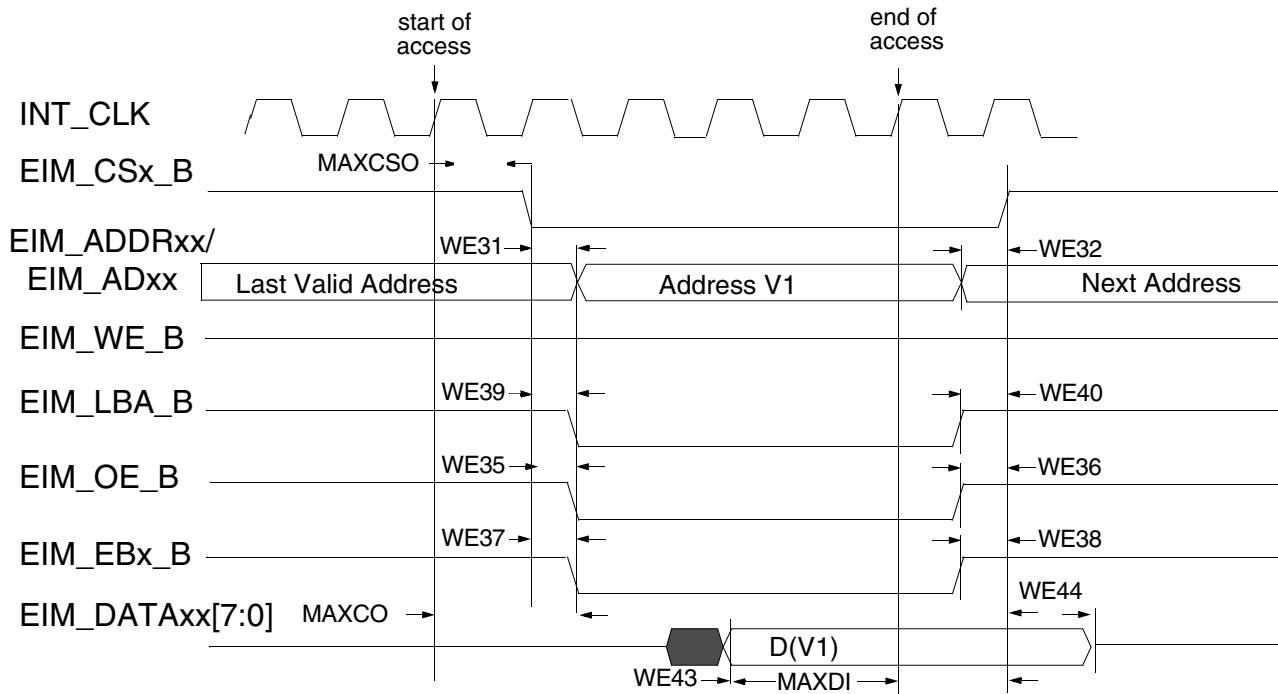
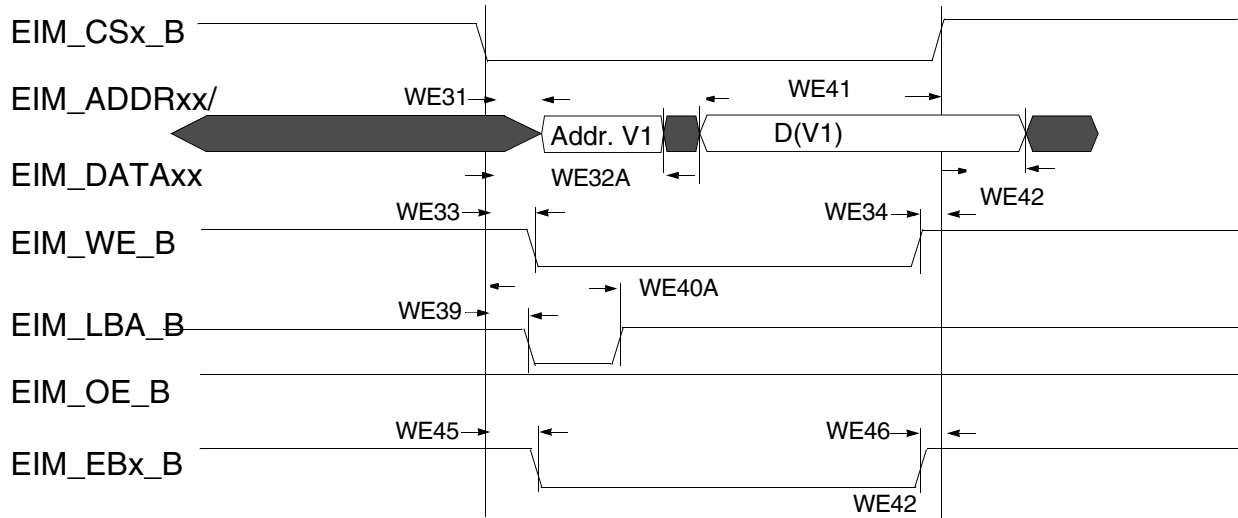
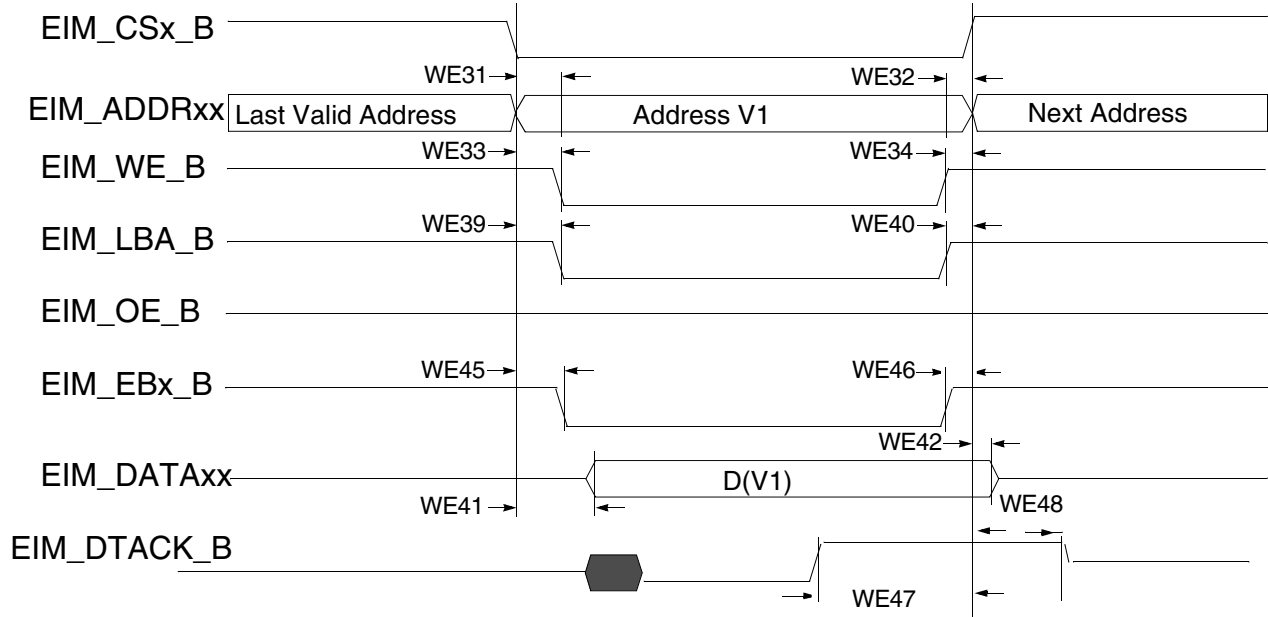

Figure 16. Asynchronous Memory Read Access (RWSC = 5)
Figure 19. Asynchronous A/D Muxed Write Access
Figure 21. DTACK Mode Write Access (DAP=0)
Figure 16 through Figure 21, and Table 46 help you determine timing parameters relative to the chip select (CS) state for asynchronous and DTACK EIM accesses with corresponding EIM bit fields and the timing parameters mentioned above.
Asynchronous read & write access length in cycles may vary from what is shown in Figure 16 through Figure 19 as RWSC, OEN and CSN is configured differently. See the *ii.MX 6SoloX Applications Processor Reference Manual (IMX6SXR)* for the EIM programming model.